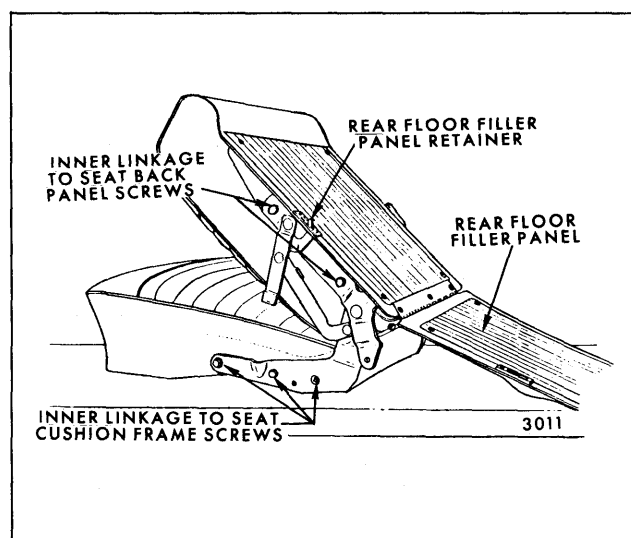

Fig. 15-77—Folding Second Seat Cushion Assembly (Right or Left Side) - "65" Styles
3. Remove three screws securing seat inner link to cushion frame (Fig. 15-77); then remove seat cushion and frame assembly from linkage. If required, remove cushion front and rear floor pan linkage.
3. Remove seat inner linkage-to-seat back panel and seat cushion frame attaching screws (See Fig. 15-77); then, disengage and remove side linkage from seat.